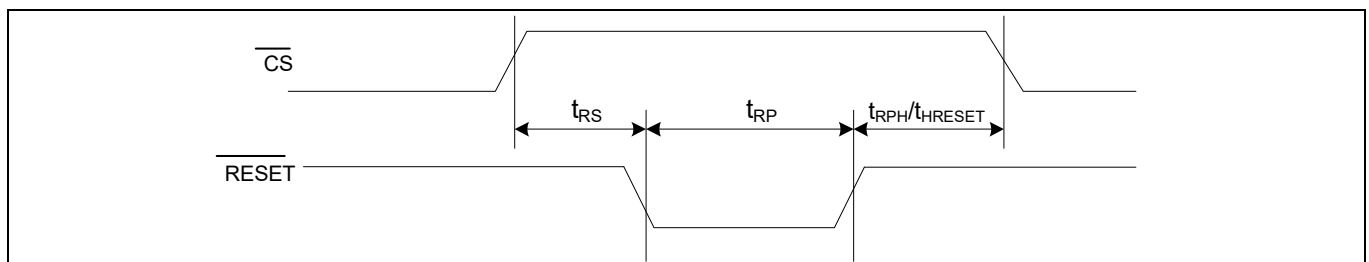
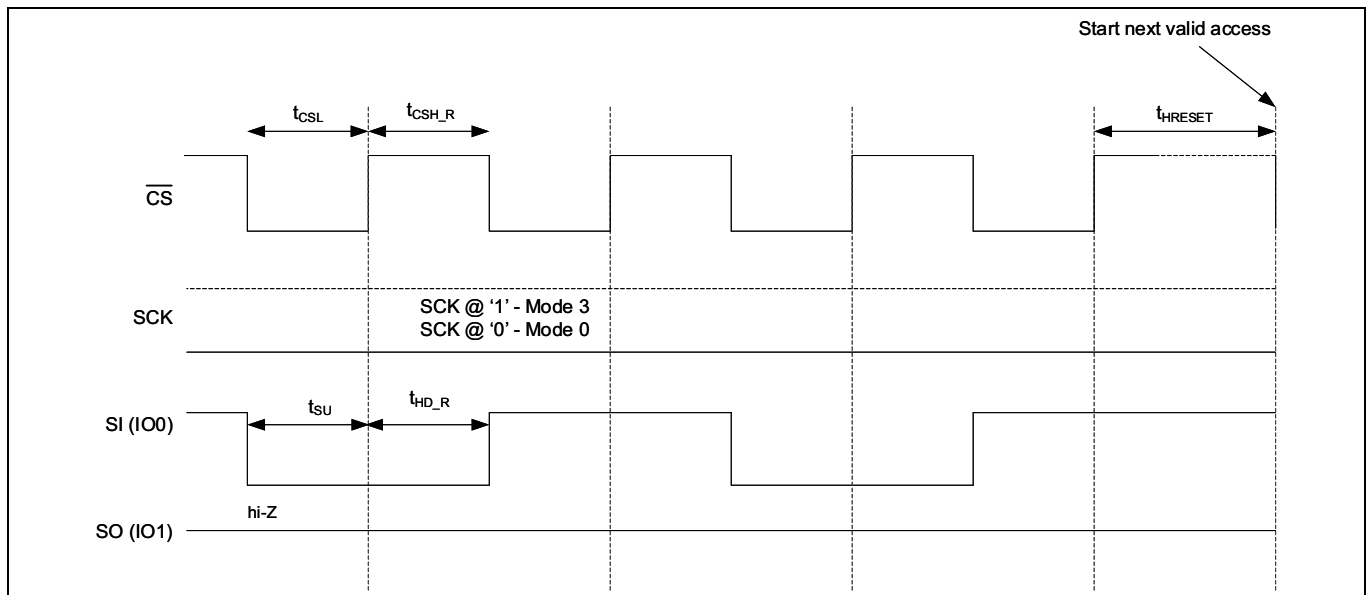

Figure 109 $\overline{\text{RESET}}$ timing - SPI with QUAD set (CR1[1] = '1') or QPI enabled (CR2[6] = '1')
Figure 111 JEDEC SPI reset
The hardware reset input ($\overline{\text{RESET}}$) is multiplexed on ($\overline{\text{RESET}} / \text{I/O3}$) and is an active LOW signal in CY15X102QSN device. Refer to Table 21 for hardware reset ($\overline{\text{RESET}}$) pin configurations across various SPI interfaces. When $\overline{\text{RESET}}$ is pulled LOW, CY15X102QSN self initializes and brings its configuration back to the power up status. Refer to Table 59 for different registers configuration after $\overline{\text{RESET}}$ cycle. Once $\overline{\text{RESET}}$ is issued, CY15X102QSN takes $t_{\text{RPH}}/t_{\text{HRESET}}$ time from $\overline{\text{RESET}}$ rising edge to complete the reset cycle. CY15X102QSN becomes inaccessible during t_{RPH} time. Figure 109 to Figure 111 show the $\overline{\text{RESET}}$ timings in different reset mode.
- The $\overline{\text{RESET}}$ pin is multiplexed on I/O3 in the QPI mode. When using the hardware ($\overline{\text{RESET}}$) in QPI mode, the [CR2 \[5\]](#) bit must be set to '1' to enable to use I/O3 as $\overline{\text{RESET}}$ input when $\overline{\text{CS}}$ is HIGH. Figure 109 shows the $\overline{\text{RESET}} / \text{I/O3}$ timing in QPI mode
Refer to Figure 111 for timing details.